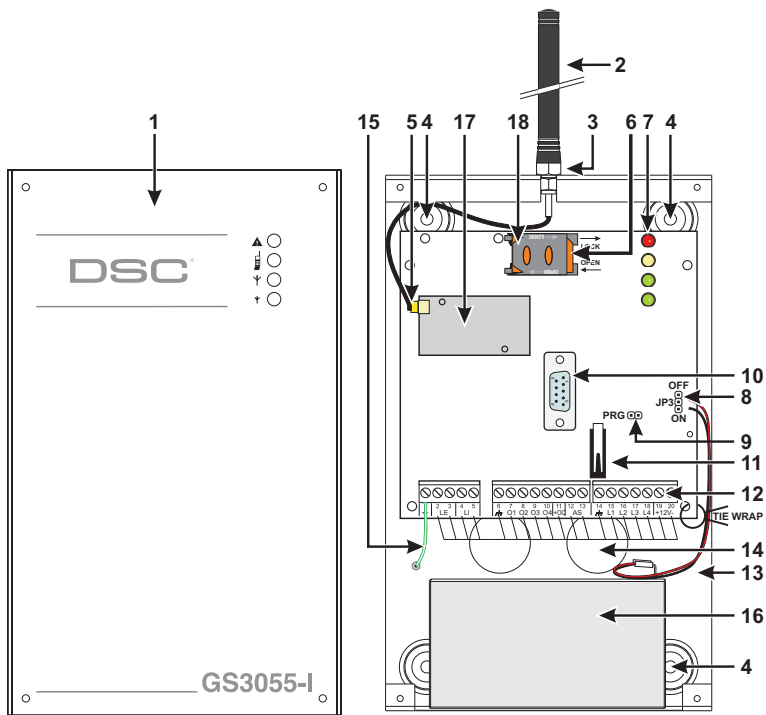

Fig. 1 - Parts - Partes
The numbers in square brackets [] in this manual refer to the main parts of this device (see Fig.1 on page 2) described in this section.
⚠ Do not route any wiring over circuit boards. Maintain at least 1" (25.4mm) separation. A minimum 1/4" (6.4mm) separation must be maintained at all points between Power Limited wiring and all other Non-Power Limited wiring. Route wires as indicated in Figure 1 on page 2.
4. Following the arrow on the board, insert the SIM-CARD [6] face down in the SIM holder (see Figure 1 on page 2).